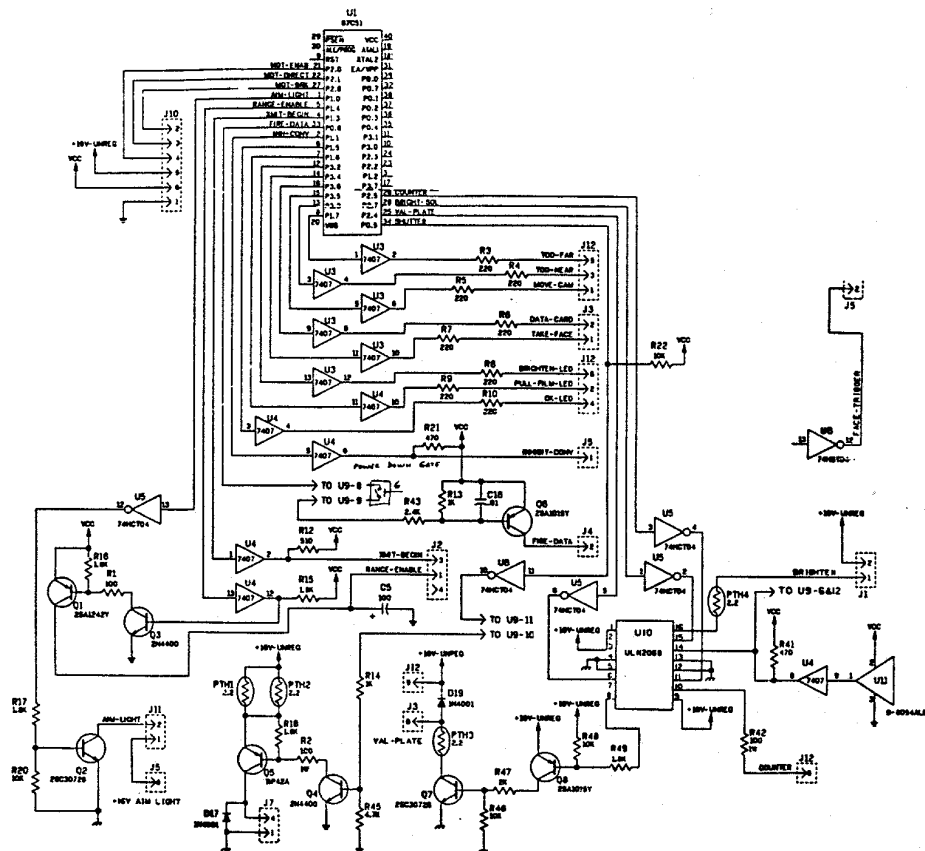

Figure 2-13 Logic Circuit Outputs
*Outputs from the Logic Circuit (Fig. 2-13) include:*